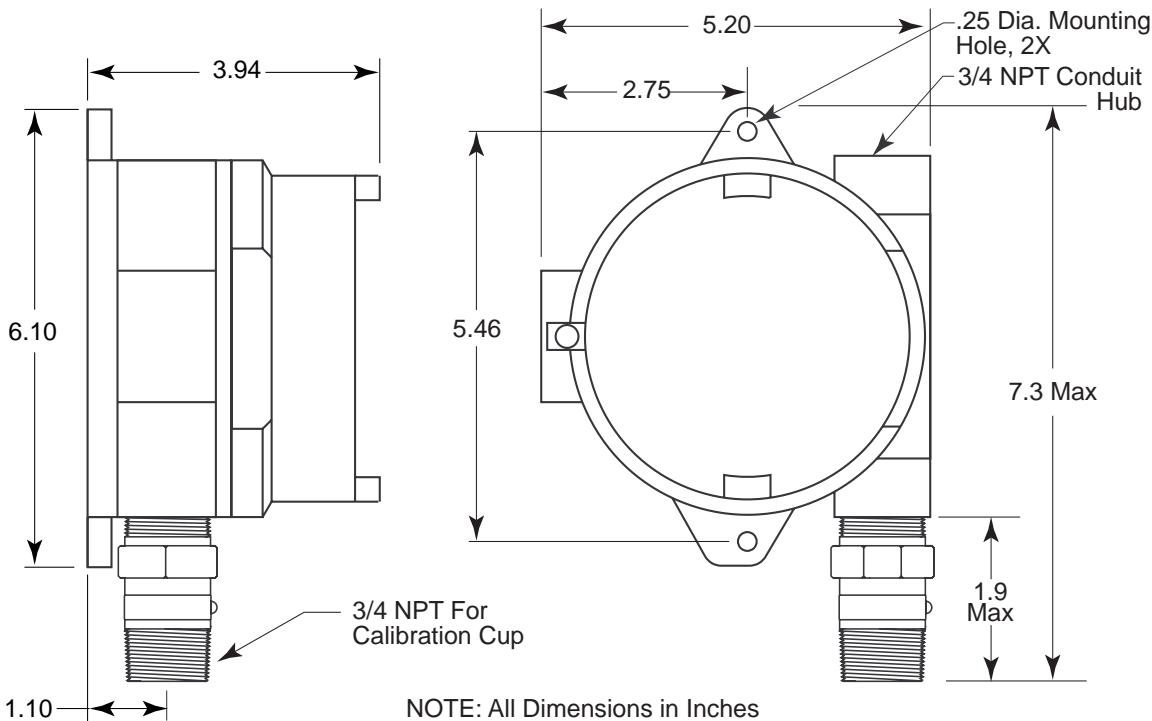

Figure 2: Mounting the CO2 Transmitter
**CAUTION:** Mount the CO2 transmitter with the detector facing down (see Figure 2.)